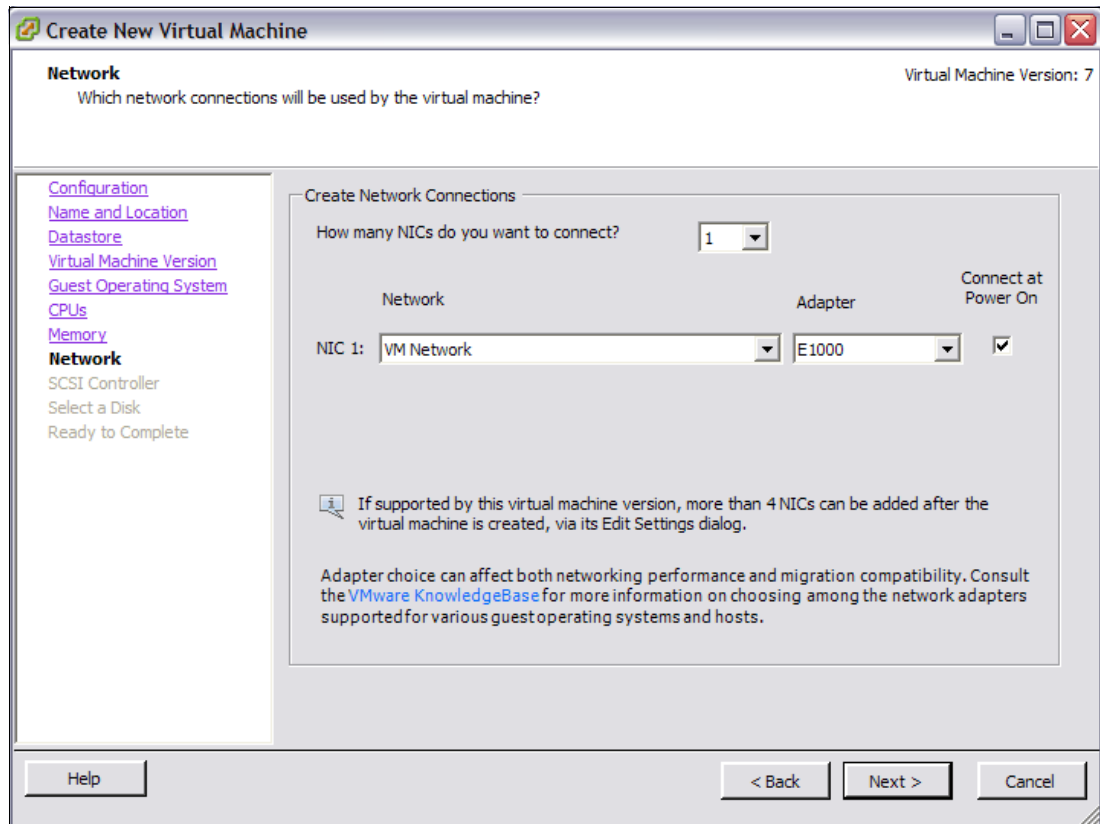

Figure 22-80 Network selection
10. In the Choose Networks window (Figure 22-80 on page 712), select the appropriate number of Network Adapters that the guest will operate with (Default is 1). Select the appropriate Network Label (ensure that the host is not overloading one particular network), which can be the VM network that we defined in earlier steps. Click **Next**.